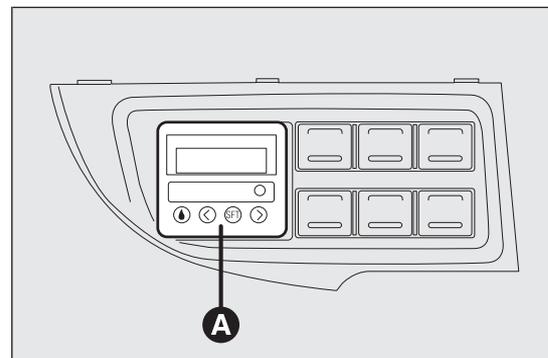

fig. 56
- ❑ a digital timer A fig. 56 for turning the heater on manually or for programming the time that it comes on.